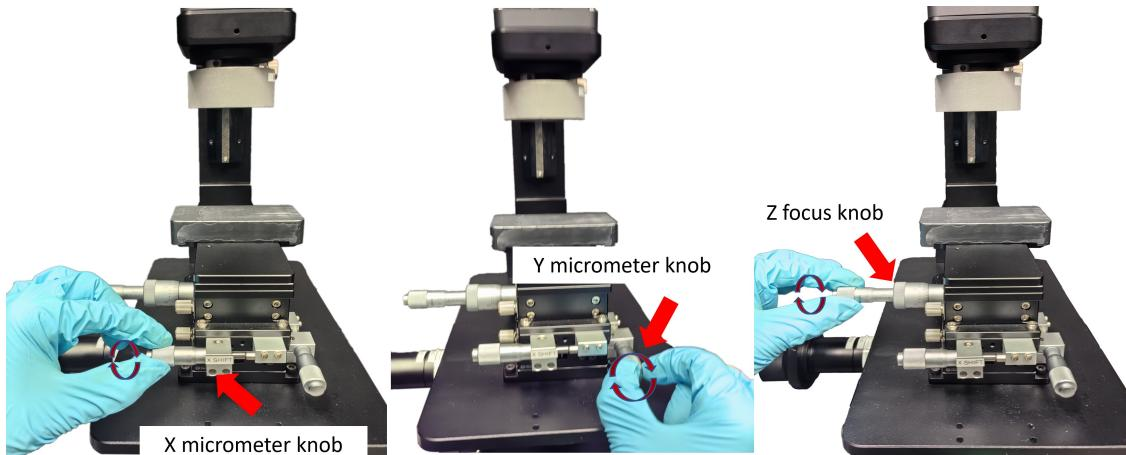

Figure 30: Use the X, Y micrometer knobs to move the sample laterally and the focus knob to bring the sample into focus.
- Once the sample becomes visible, use the **X and Y micrometer knobs** to move the sample laterally (see Figure 30). Bring the sample into focus by carefully rotating the **Z (focus) knob**. **Caution:** Do not allow the objective lens to contact the sample slide—this may cause damage.